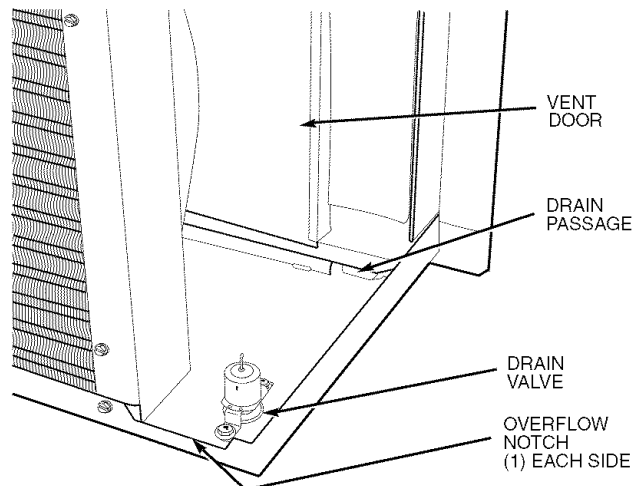

FIGURE 30 — BASEPAN SECTION
2. Clean vent screen by washing or vacuuming. Open vent door and pull screen out. See Figure 30.
3. Clean basepan, including drain passages and area inside the condenser orifice, by washing or vacuuming. See Figure 30.